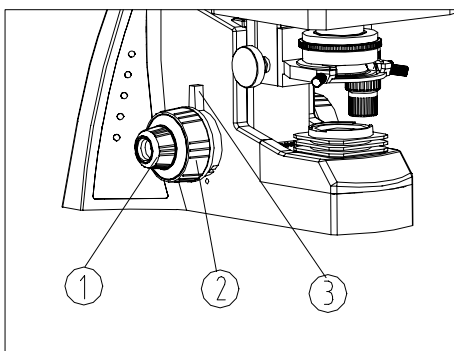

Fig.18
3.3.3 Focusing the Specimen (Fig.18)